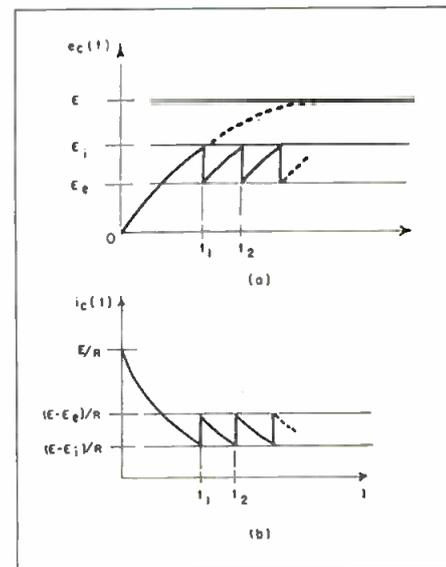

Fig. 4: Condenser voltage (a) and current (b)
As shown in Fig. 4 (b), the value of i_c an instant before the time t_2 (at which the lamp ignites) is $\frac{E - E_i}{R}$. Substituting this value of i_c in eq. (1) and solving for the period of oscillation,
Since the same doppler frequency results for a given velocity, regardless of whether the aircraft is ascending or descending, some means must be provided for sensing the direction of the velocity. A dual channel microwave receiving system, as shown in Fig. 2, is used for this purpose. Its operation is described by the block diagram in Fig. 3. The klystron generates one watt of power which enters the H arm of a waveguide magic tee where it divides between the two side arms. One half of the power is transmitted out through a dielectric-rod antenna, while the other half goes into a 30 db attenuator pad and then to the E arm of a second magic tee where it divides again and enters two crystal mixers. The unavoidable cross-coupling between the H and E arm of the first magic tee is adjusted to -33 db and used to provide a signal to the H arm of the second magic tee. This signal also divides between the two crystal mixers. Thus 0.5 mw of local oscillator power is supplied to each crystal. The phase relationship between these signals is shown in Fig. 4. Note that the E and H arm local oscillator voltages are of